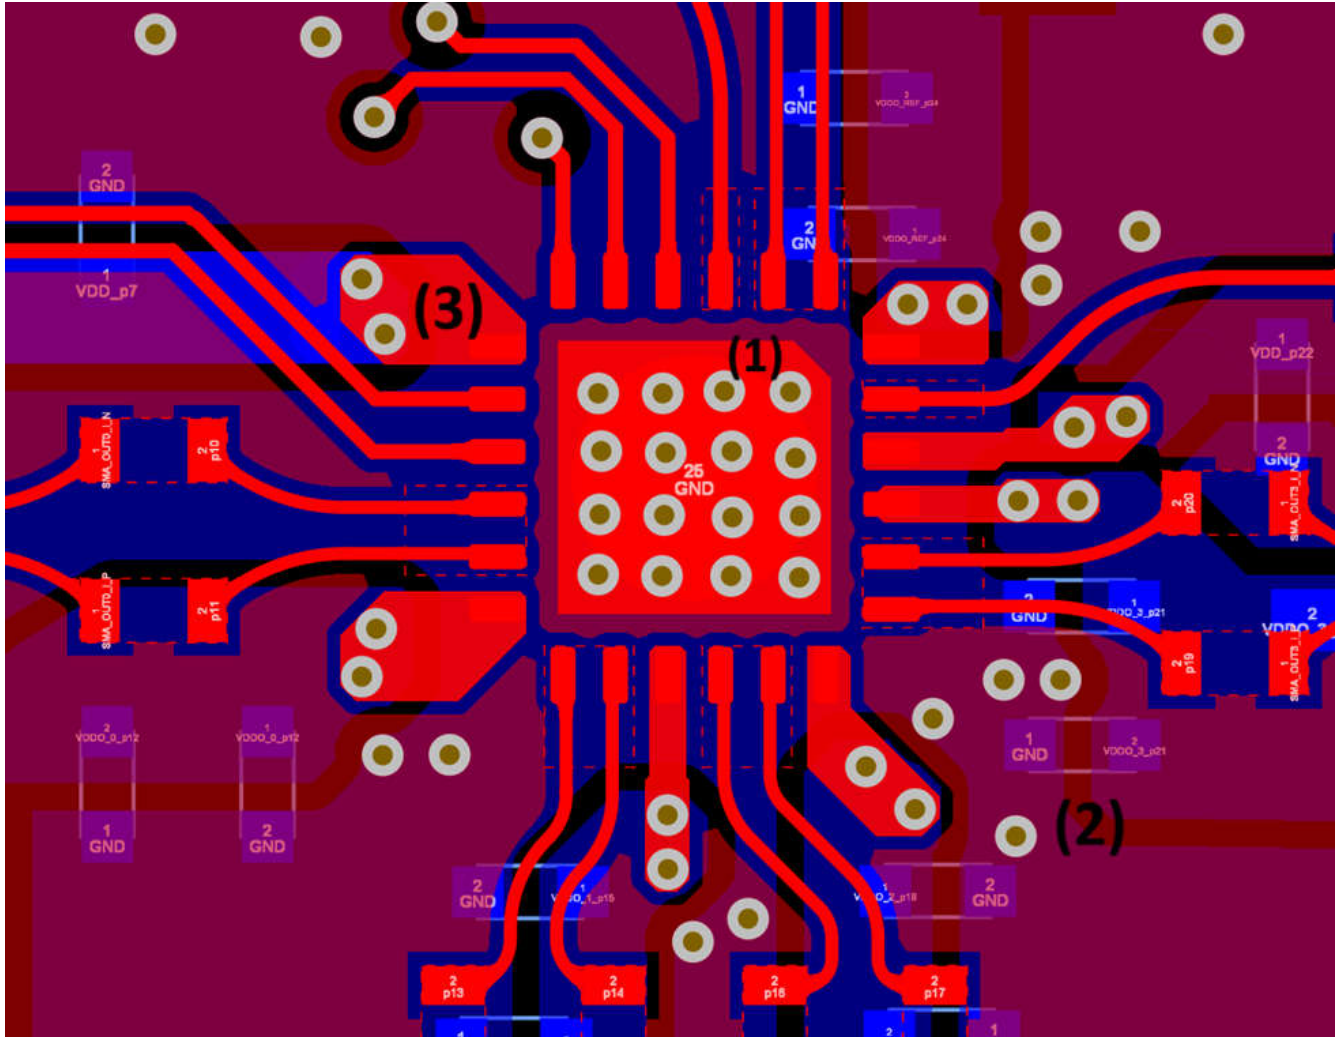

Figure 8-6. LMK3H2104 Top and Bottom Layers Example Layout
- For LMK3H2104, use at least five vias to connect the thermal pad to a solid GND plane. Full-through vias are preferred. Refer to (1) in Figure 8-6 for an example.
- Place decoupling capacitors with small capacitance values very close to the supply pins. Try to place the capacitors very close on the same layer or directly on the backside layer. Larger values can be placed more far away. Refer to (2) in Figure 8-6 for an example.
- If power is routed across multiple layers, use multiple vias to connect the power traces across layers. Refer to (3) in Figure 8-6 for an example.